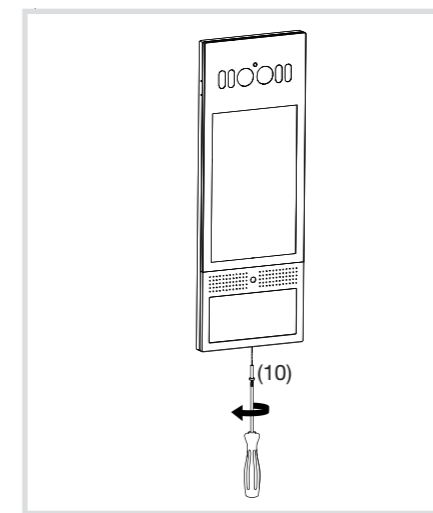

Fig. 31: Securing the outdoor station
- Using the safety screw (10), screw the outdoor station to the installation housing at the bottom centre (Figure 31).